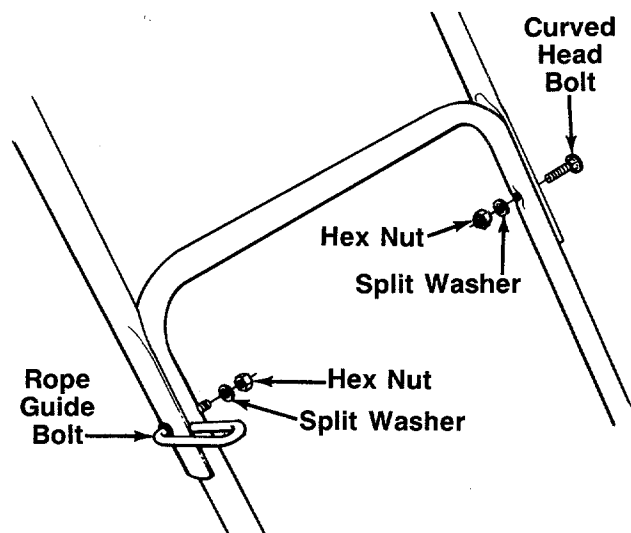

FIGURE 4.
2. Insert the rope guide bolt through the right hand side of upper and lower handle. See figure 4. Secure with split washer and hex nut, finger tight only.